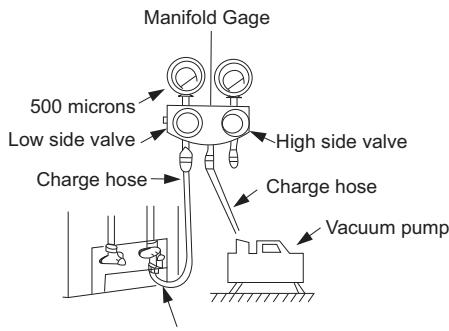

Fig. 19 - Manifold
3. Fully open the low side of manifold gage. (See Fig. 19.)